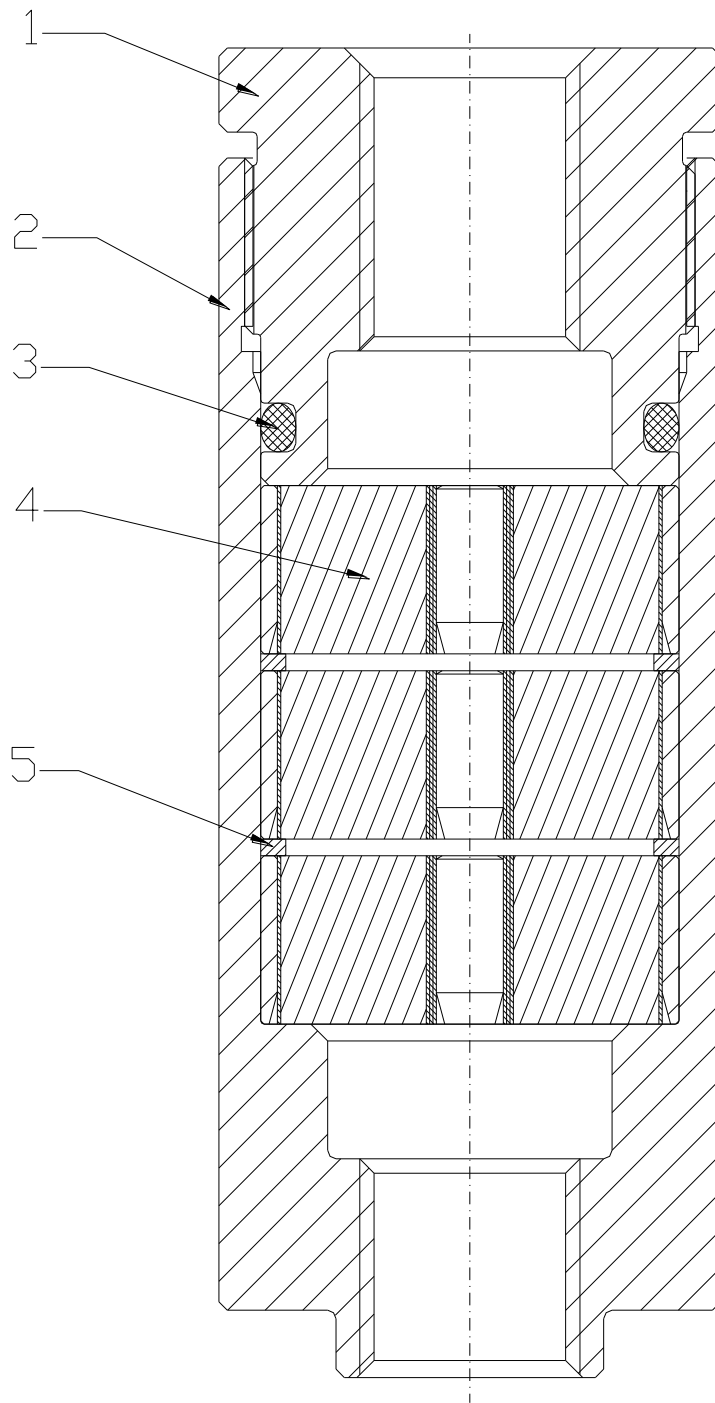

Fig. 1
(See also figure 1)
(See fig.1).
(See fig. 1)
- Spare part no. (Please refer to **fig. 1** for items)